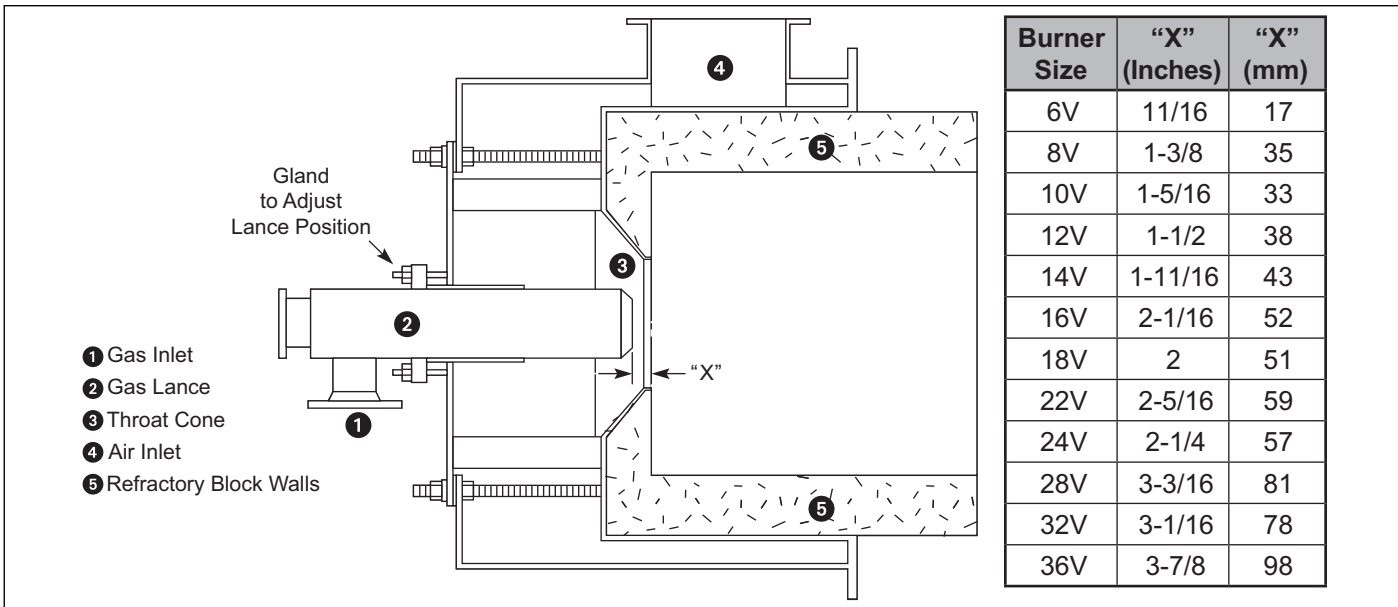

Figure 3.1. Vortometric Gas Lance Position
For Gas Only Burners Adjustment (Figure 3.1)
2. Using the chart in Figure 3.1, determine the "X" dimension based on your burner size.